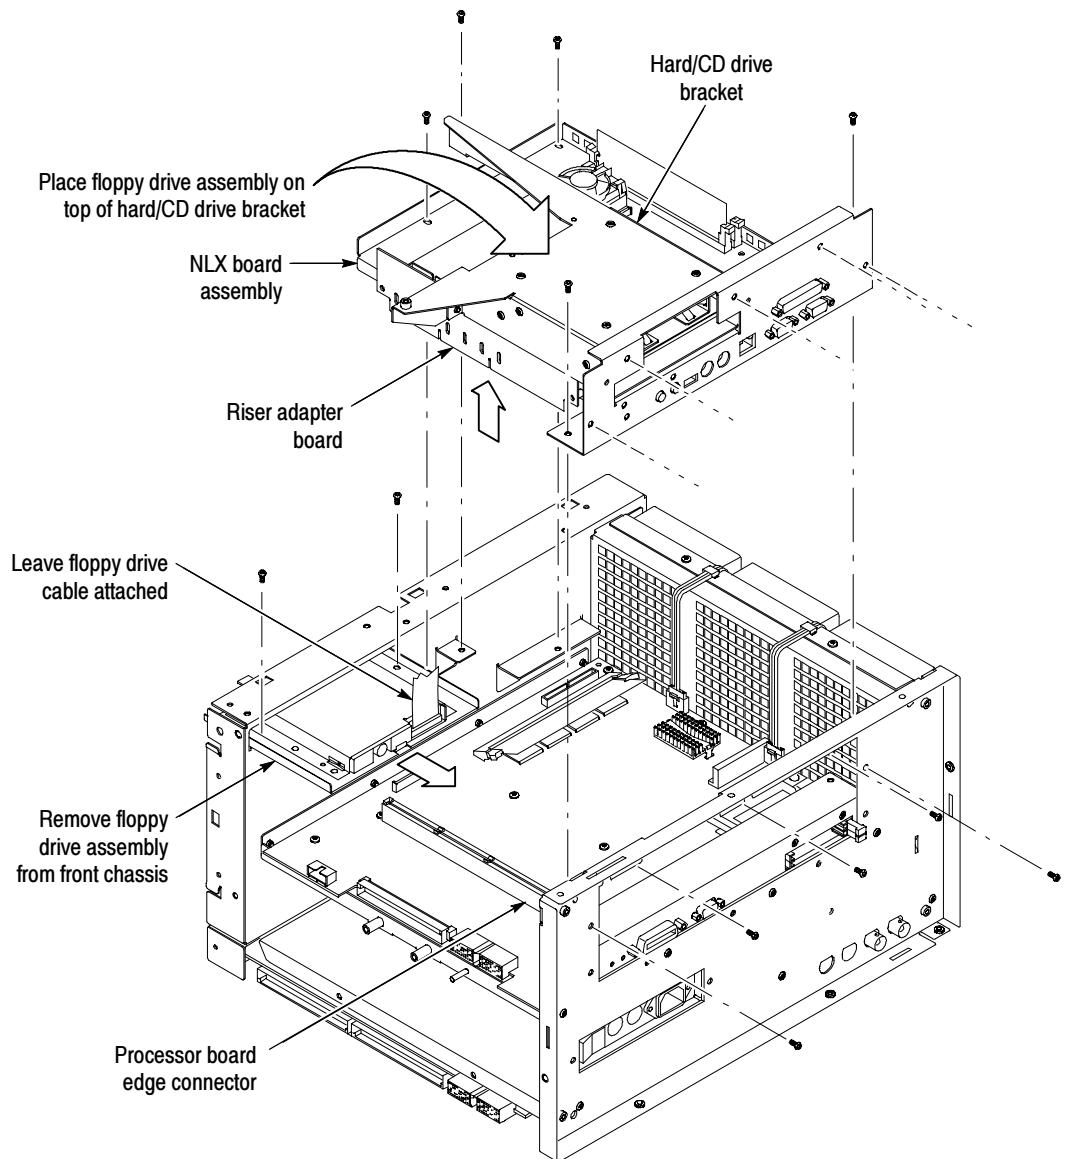

Figure 8: NLX assembly removal
2. *Remove the NLX Board assembly:* See Figure 8 on page 17.